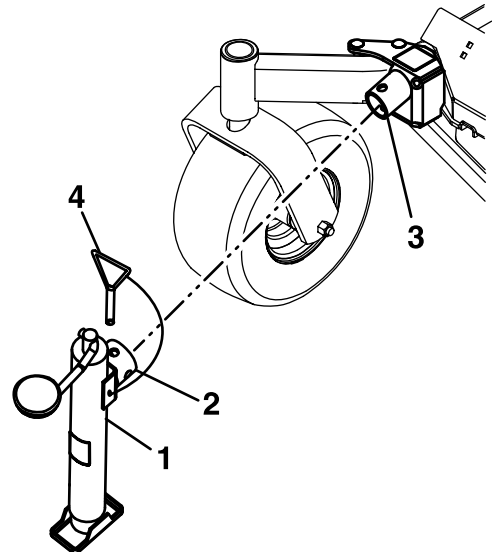

Figure 3
4. Insert the jack tube onto the jack mount, align the mounting holes, and secure the jack with the jack pin (Figure 3).